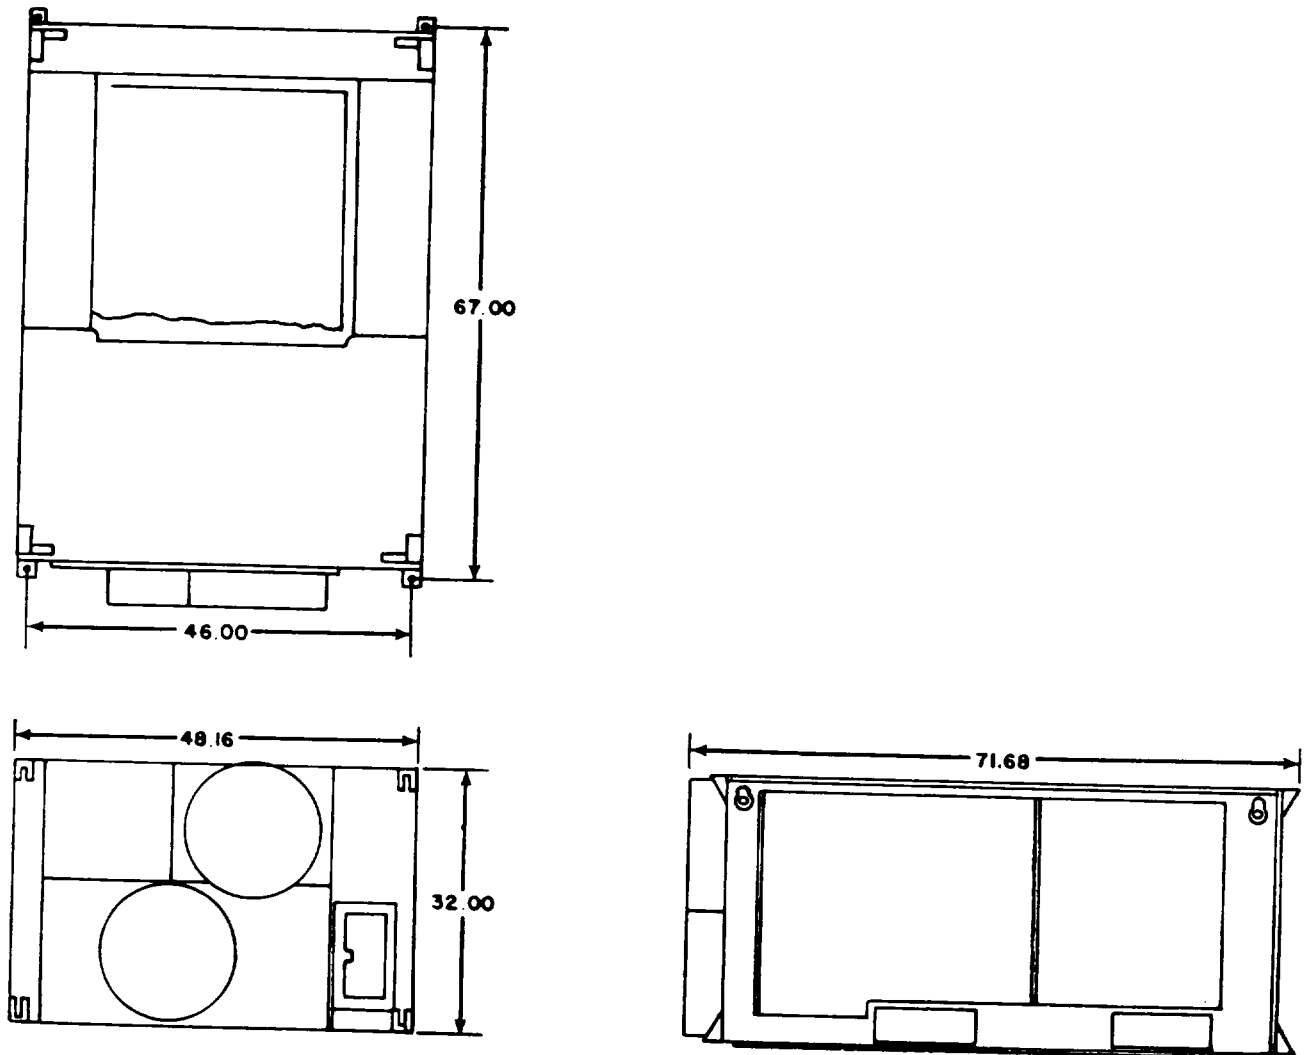

Figure 4-1. Installation Dimensions
(1) A relatively flat unobstructed space of an area not less than 4 feet by 8 feet is required for emplacement of the air conditioner. If the air conditioner is to be located on an uneven terrain, the raised corner must not be higher than 5 inches above the lowered corner. Overhead clearance for condenser fan exhaust should be available. See figure 4-1 for installation dimensions.